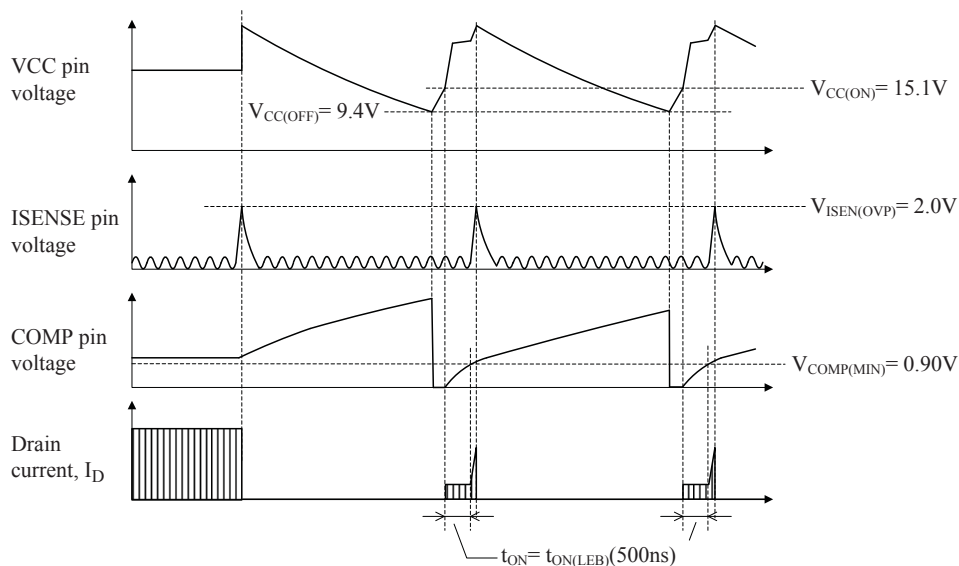

Figure 36. Waveforms when ISENSE pin OVP is being activated (LC551xD)
• ISENSE Pin Overvoltage Protection. Figure 36 shows the ISENSE pin OVP operation. When the ISENSE pin voltage with reference to the S/GND pin reaches and exceeds $V_{ISEN(OVP)} = 2.0\text{ V}$ or more, OVP is activated.